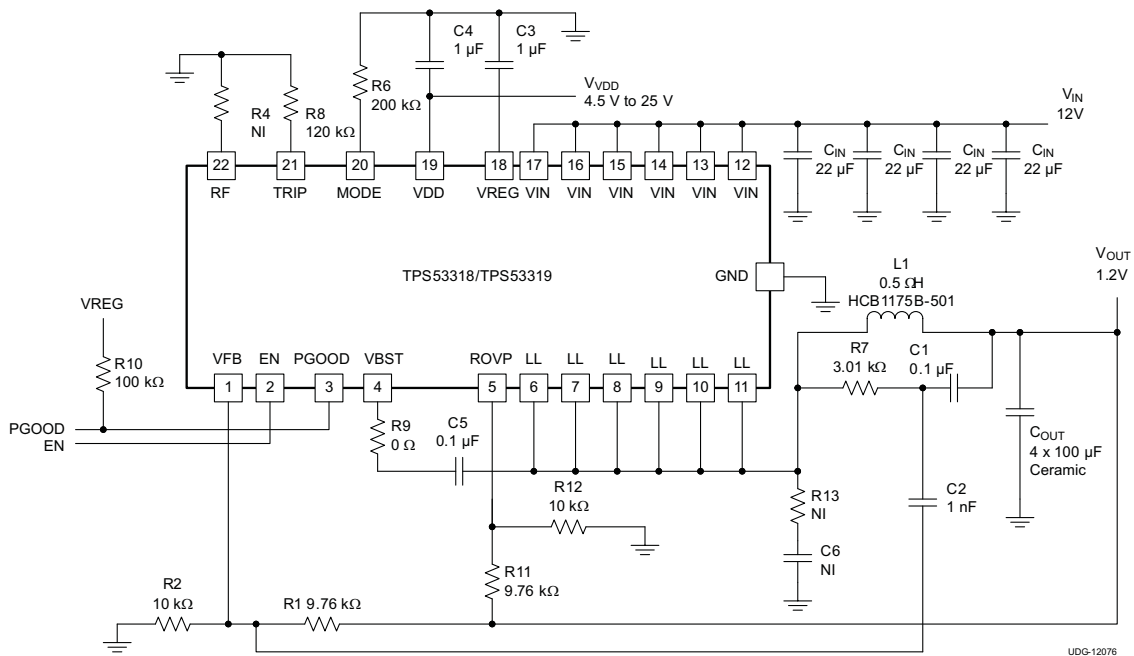

Figure 45. Typical Application Circuit, Redundant OVP Enabled
The redundant overvoltage level is programmed according to the output voltage setting, it is controlled by resistors R11 and R12 as shown in Figure 45. Connect resistor R11 between the ROVP pin and the output, and connect resistor R12 between the ROVP pin and GND. This design recommends that the value of resistor R11 match the value of resistor R1 (or slightly higher), and that the value of resistor R2 match the value of resistor R12.
- Connect the ripple injection V_{OUT} signal (V_{OUT} side of the C1 capacitor in Figure 45) from the terminal of ceramic output capacitor. The AC coupling capacitor (C2 in Figure 45) should be placed near the device, and R7 and C1 can be placed near the power stage.